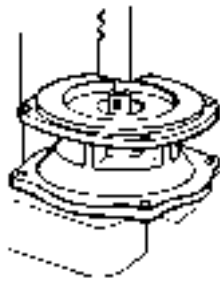

Figure 15
2. Place the Mounting Flange on an arbor press with the shaft end facing up: then, press the Shaft and both Bearings out of the Mounting Flange (See Figure 15).